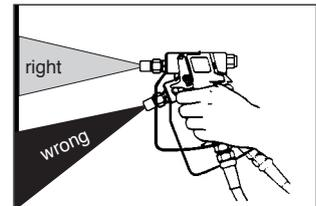

Fig. 22: Spray angle
- Hold the spray gun at a right angle (90°) to the surface to be coated. As soon as you hold the spray gun at a different angle, the coating will become uneven and patchy (see Fig. 22).